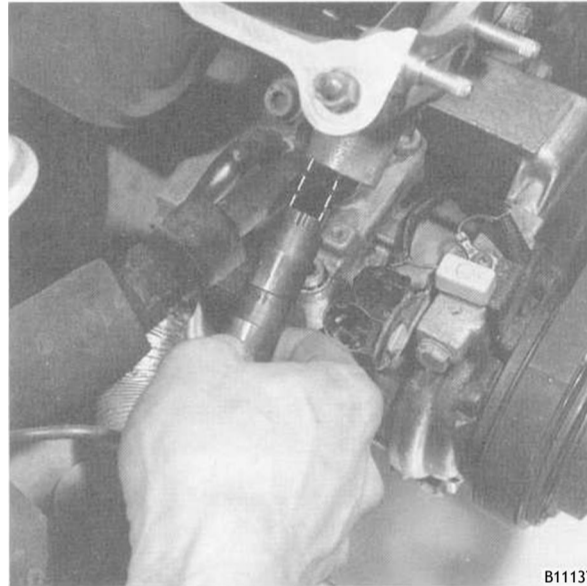

Fig. 21. Primary timing chain tensioner being installed on 1991 and 1992 cars. Piston cutout must be in position shown to engage chain rail.
10. On 1991 and 1992 cars, install the primary chain tensioner so that the cutout in the tensioner piston engages the chain rail as shown in Fig. 21. The chain should be free of slack.
- On 1993 and later cars, remove BMW special tool 11 3 390 (dummy tensioner) from the side of the cylinder head. Install the primary chain tensioner so that the cut-out in the tensioner piston engages the chain rail as shown above in Fig. 21. Install and tighten the access plugs in the VANOS control unit.